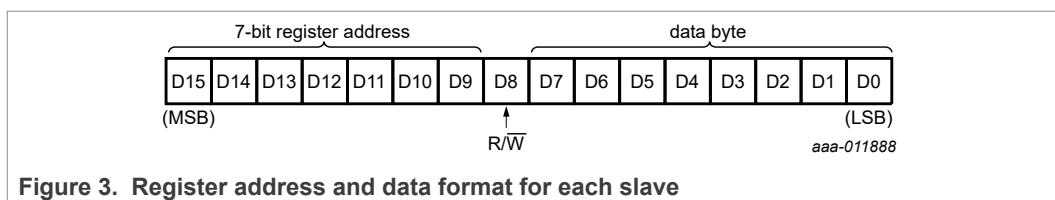

Figure 3. Register address and data format for each slave
Following a chip select (CS) asserted condition (from HIGH to LOW), the data transfers are (16 × n) bits wide (where 'n' is the number of slaves in the chain) with MSB transferred first. The first 7 bits are the address of the register to be accessed. The eighth bit indicates the types of access — read (= 1) or write (= 0). The second group of 8 bits consists of data as shown in Figure 3.